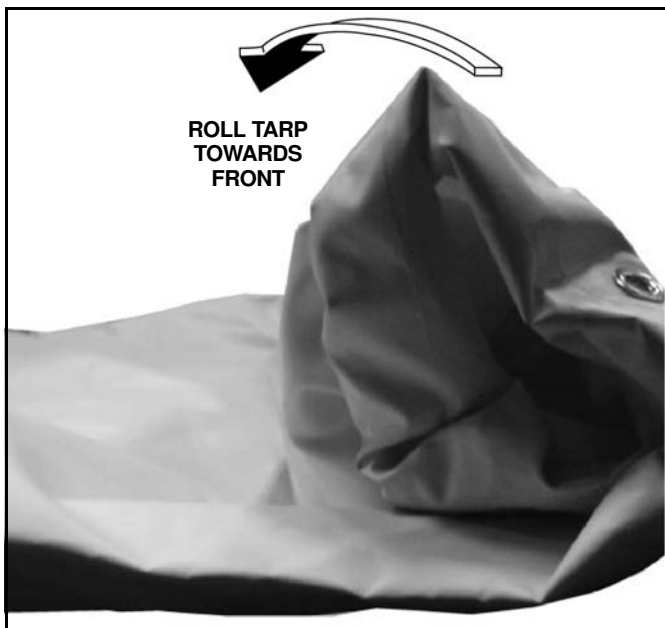

Figure 7
2. Pull the tarp away from the outer rear corners of the spreader, lift the rear tubular inner edge away from the hopper lip and roll the tarp up towards the front of the spreader. (See Figure 7.)